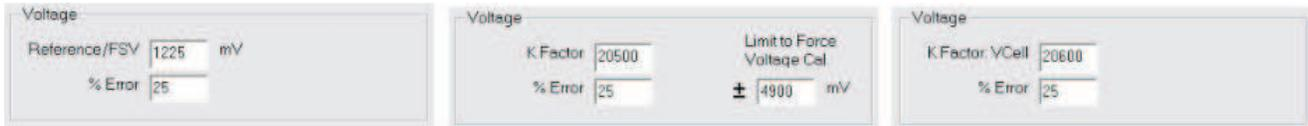

Figure 7. Reference/FSV and K-Factor Fields
1. **Reference/FSV:** The tester calibrates the voltage gain by manipulating the Full Scale Voltage Reference. Do not change the values in this field. The **Voltage** frame looks the same for most of the parts, except for the bq306x. For bq306x device-based parts, extra K-factor fields appear. The frame for K-factor-based parts are shown in Figure 7.
If the percent difference between the two values is more than 25%, then it fails the calibration because it assumes something must be grossly wrong to get a value more than 25% from the nominal. As shown in Figure 7, bq306x device-based parts show limits to voltage calibration in \pm mV. In this case, if the voltage read by the device is within this limit, no calibration is done. Precious time is saved (~4s) during calibration if voltage calibration can be avoided. In the case where voltage calibration is always needed, a 0 can be entered in this field.